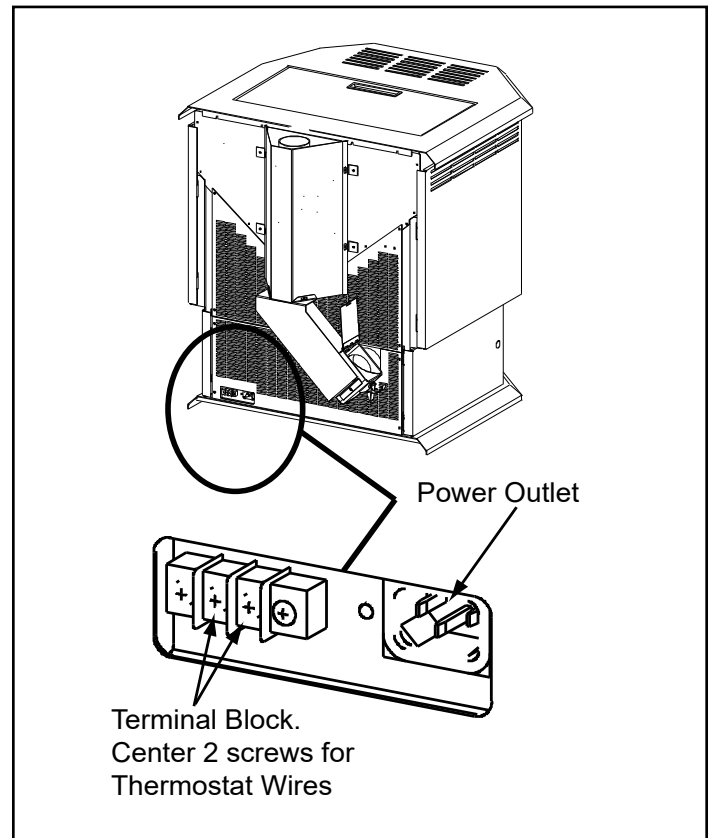

Figure 22.1
2. Connect the thermostat wire to the center two screws of the terminal block on the stove. (Figure 22.1)
There is a 4 screw terminal block located on the back lower left corner of the stove directly above the power cord inlet. The center 2 screws are for the thermostat wires (**Figure 22.1**).